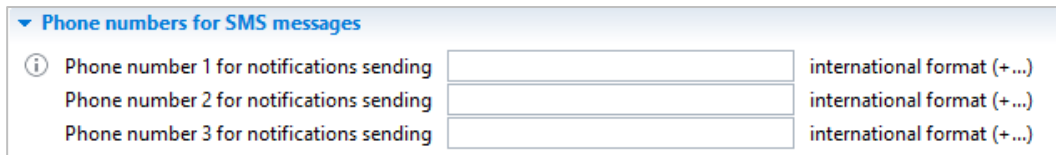

Fig. 37. Phone numbers for SMS notifications about events at the input.
- **Phone numbers for SMS message** (in the international format) is the phone numbers, where SMS notifications about events at the input will be sent. Up to three subscriber numbers could be specified in the setting parameters (Fig. 37).